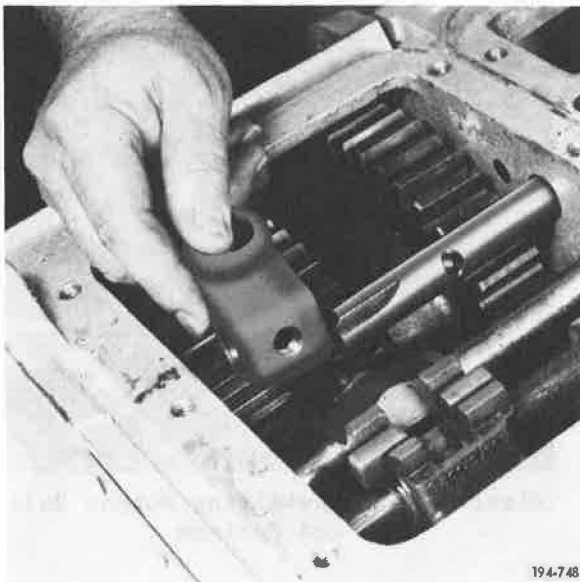

Figure 411. Installing Shifter
29. (Rearward Controls Only) Install front compound shifter onto front compound shift rail. See Figure 411.